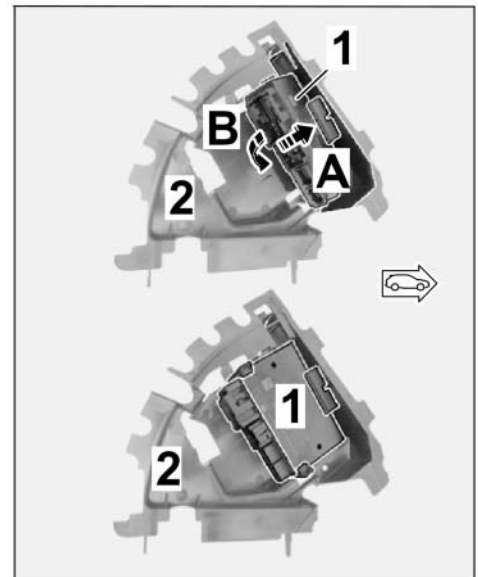

Figure 12
- 2.4.5 Install the trailer hitch control unit in the bracket (⇒ *Figure 12*).